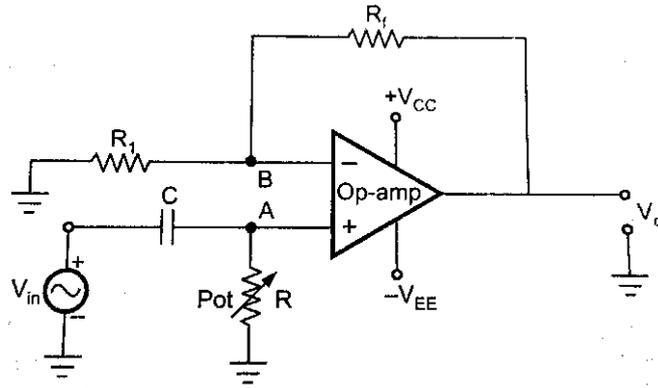

Fig. 3.13 First Order High Pass Butterworth Filter
- The first order high pass filter can be obtained by interchanging the elements R and C in the first order low pass filter circuit as shown in Fig. 3.13.